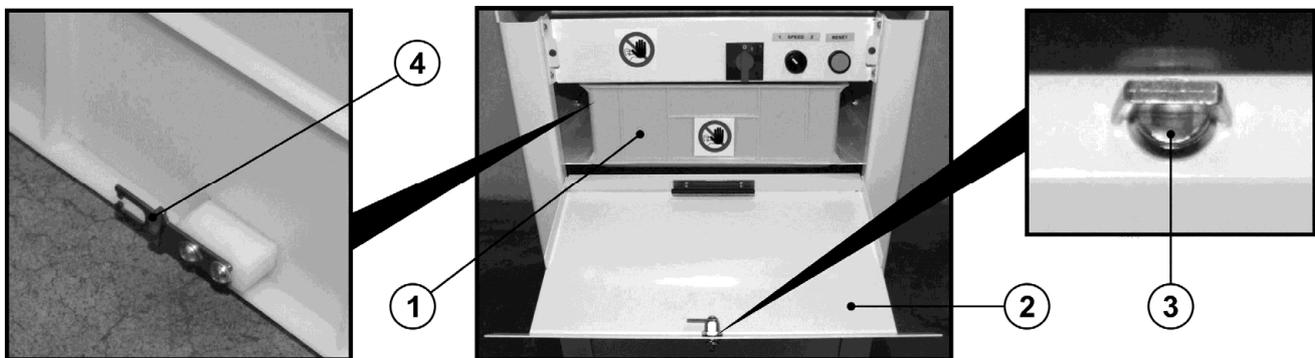

Figure 8
The machine has a drawer ref. 1 Figure 8 for collecting crumbs and bread residue. This drawer can be taken out (e.g. for emptying and/or cleaning) by opening the door, ref. 2 with the lock ref. 3.